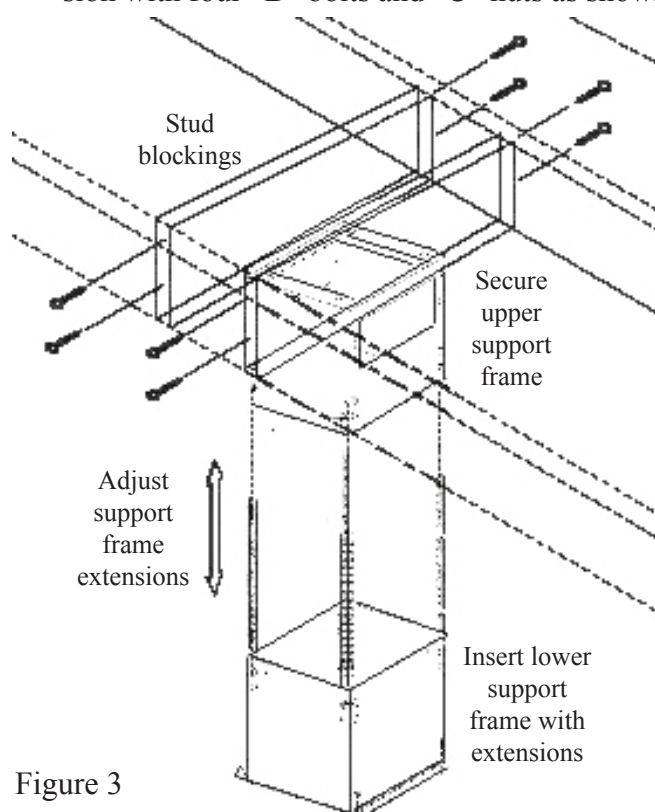

Figure 3
4. Fasten the support frame extension onto the lower support frame using four "B" bolts and "C" nuts as shown in Figure 3. Repeat this step for rest of the support frame extensions. IMPORTANT: Always use first and second holes on the support frame extensions.
6. Position the lower support frame with support frame extensions to the upper support frame, fasten each extension with four "B" bolts and "C" nuts as shown in Figure 3.
7. Slide the upper chimney cover over the completed support frame and fasten with two "F" bolts to the upper support frame. (See Figure 3 for illustrations).